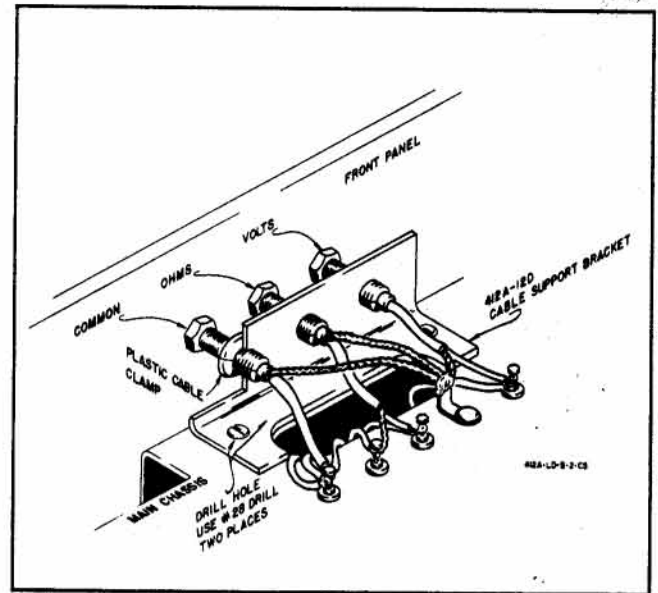

Figure 3.  Model 412AR (Rack Mount)
4. Refer to Figure 3. Position the cable support bracket by pulling on input cables so that the plastic clamps are aligned with the boot studs. Mark and then drill two #28 holes in the chassis using the cable support bracket as a guide.
5. Install the cable support bracket with #6 x 3/8 inch screws. Solder the input cable wires as shown in Figure 3.